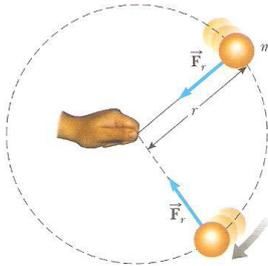

Figure 29. A ball whirled at a constant speed in a horizontal circular path
Now, you can draw two vector diagrams using the radii of the circle \underline{r}_i and \underline{r}_f (b) and the velocities (c) at locations (A) and (B) as presented in **Figure 29**.